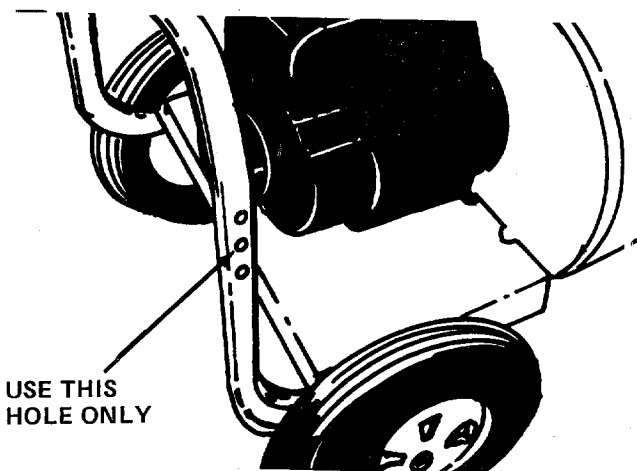

FIGURE 3.
- ← 2. Figure 3 shows lower handle. Upper handle mounts in center hole only.